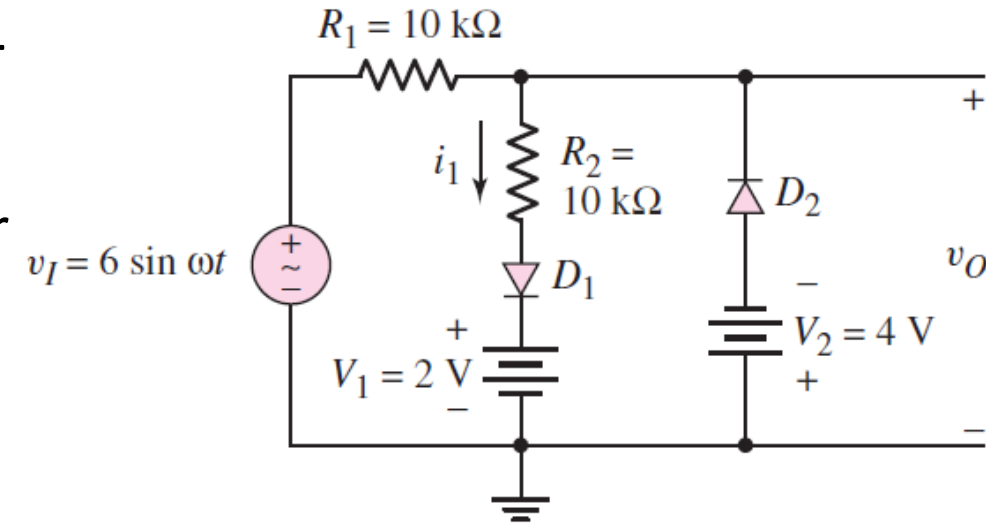

Figure 2.23(a)
- **Objective:** Find the output of the parallel-based clipper in Figure 2.23(a).